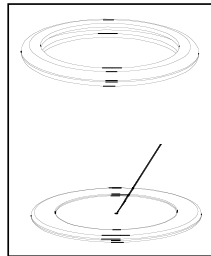

Fig. 5
CLEANING THE VALVE COVER. (J). FIG. 5.